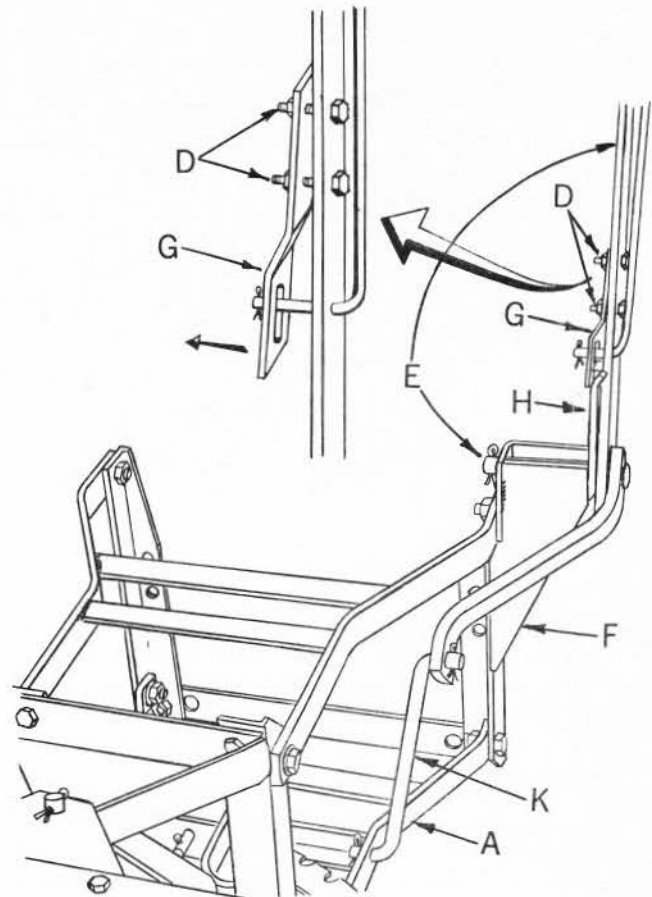

FIG. 2
6. Refer to Figure 2. Loosen two nuts (D) in lever and lever clip lower. Slide shaft of lever and arm assembly (E) into socket of mounting angle and quadrant assembly L.H. (F) and secure with $5/32 \times 1$ cotter pin found in plastic bag. NOTE: Be sure lever clip (G) straddles lever quadrant (H) as shown and retighten two nuts (D) securely.
7. Assemble lower end of lift rod (K) to lower lift frame (A) and secure with $5/32 \times 1$ cotter pin found in plastic bag. See Figure 2.